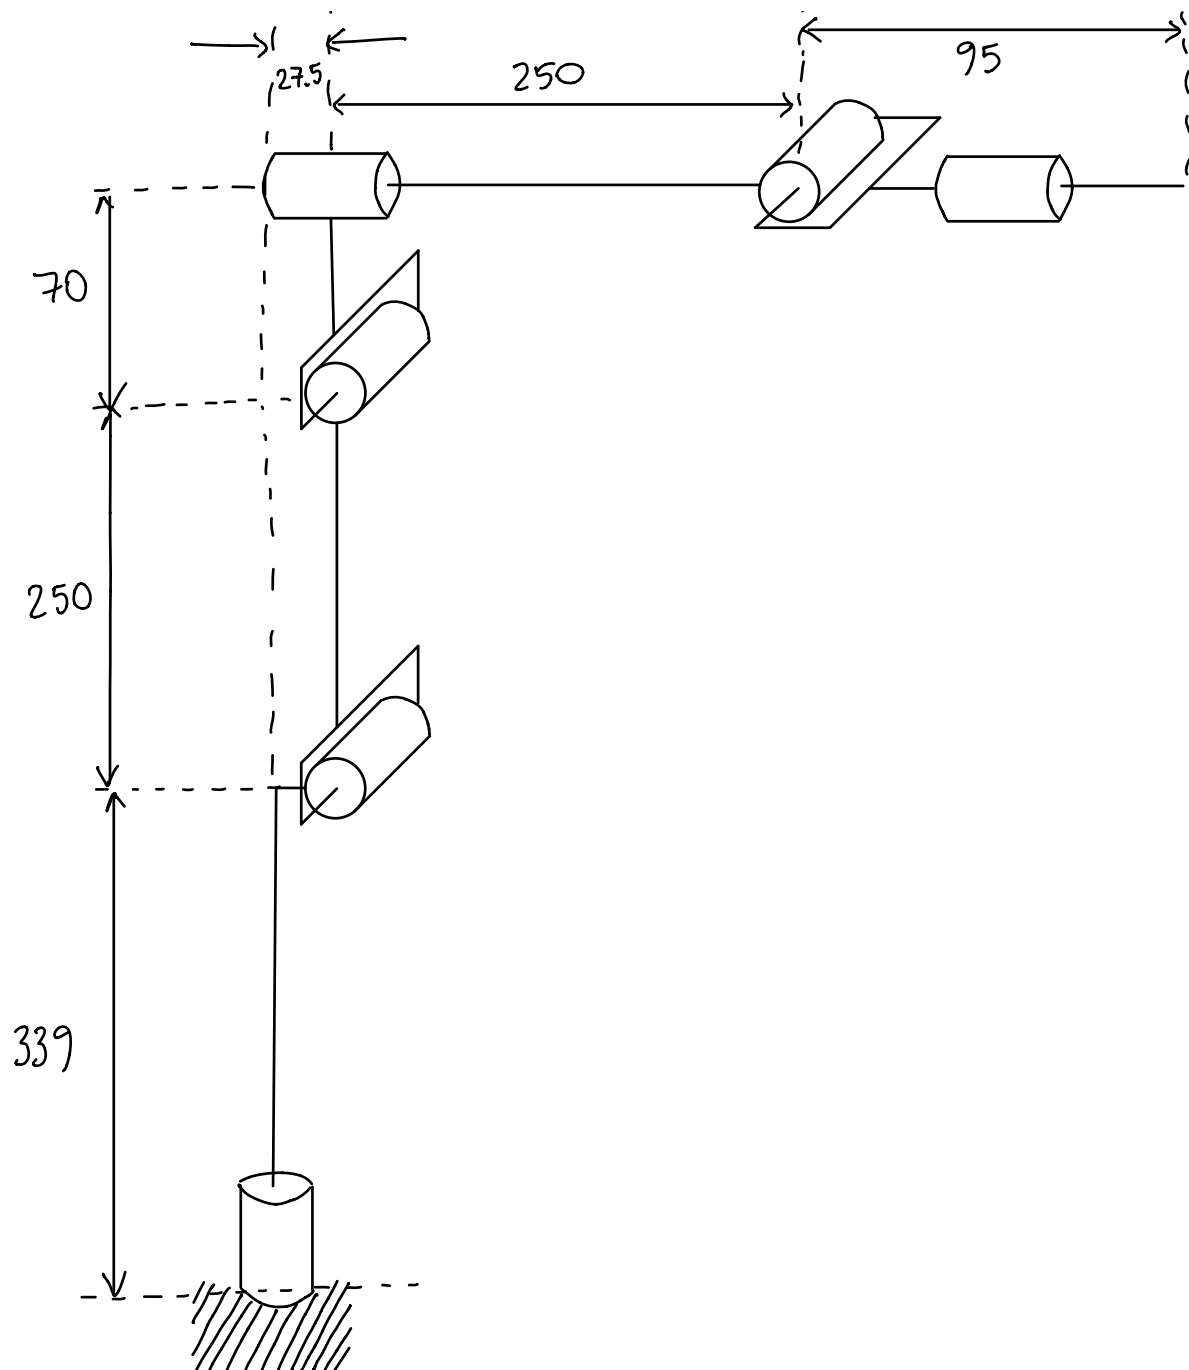

Figure 1: Skeleton diagram of the NeXCoM miniBOT-6
The figure on the right is a depiction of miniBOT6-R robot. Use the Denavit-Hartenberg (DH) convention to assign frames on each link. Furthermore, fill in the table on the left with DH parameters. A skeleton diagram of the robot is provided in Figure 1.